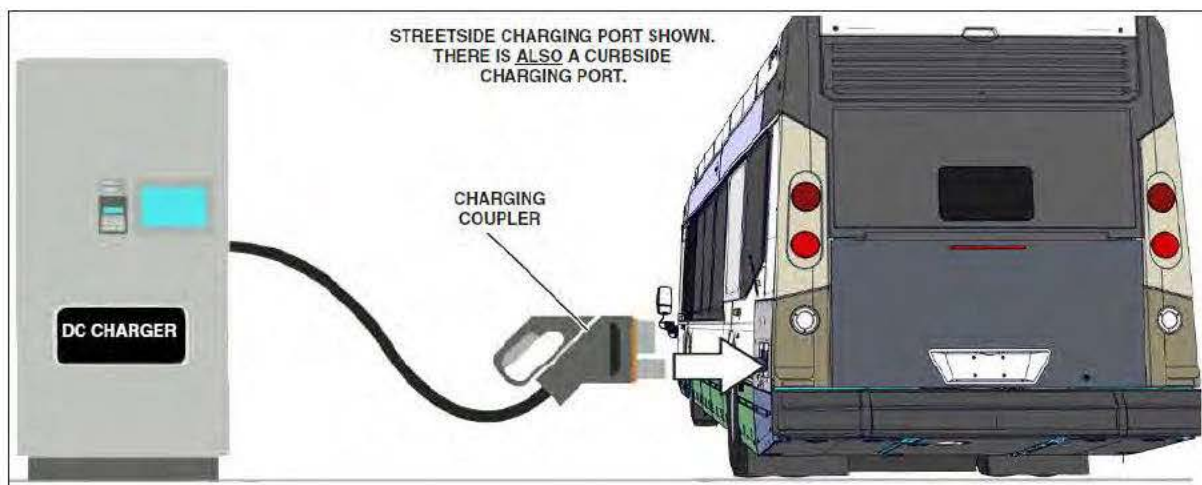

Figure 6 - CCS Charger Connection to the Vehicle
- Connect the vehicle to CCS charger to perform a complete charge of the HV battery. Refer to heading **CHARGING** of section 11-702: **LFSE+ COMBINED CHARGING SYSTEM** of the Nova Bus maintenance manual. See Figure 6.